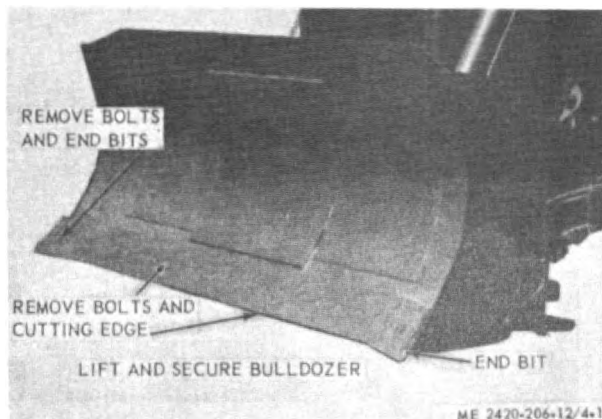

Figure 4-1. Bulldozer cutting edge and end bits, removal and installation.
a. Removal. Remove bulldozer end bits as illustrated in figure 4-1.
(1) Clean all parts and dry thoroughly.
(2) Inspect for wear, cracks, breaks and other damage. Replace defective parts as necessary.
c. Installation. Install bulldozer end bits as illustrated in figure 4-1.
a. Removal. Remove bulldozer cutting edge as illustrated in figure 4-1.
c. Installation. Install bulldozer cutting edge as illustrated in figure 4-1.